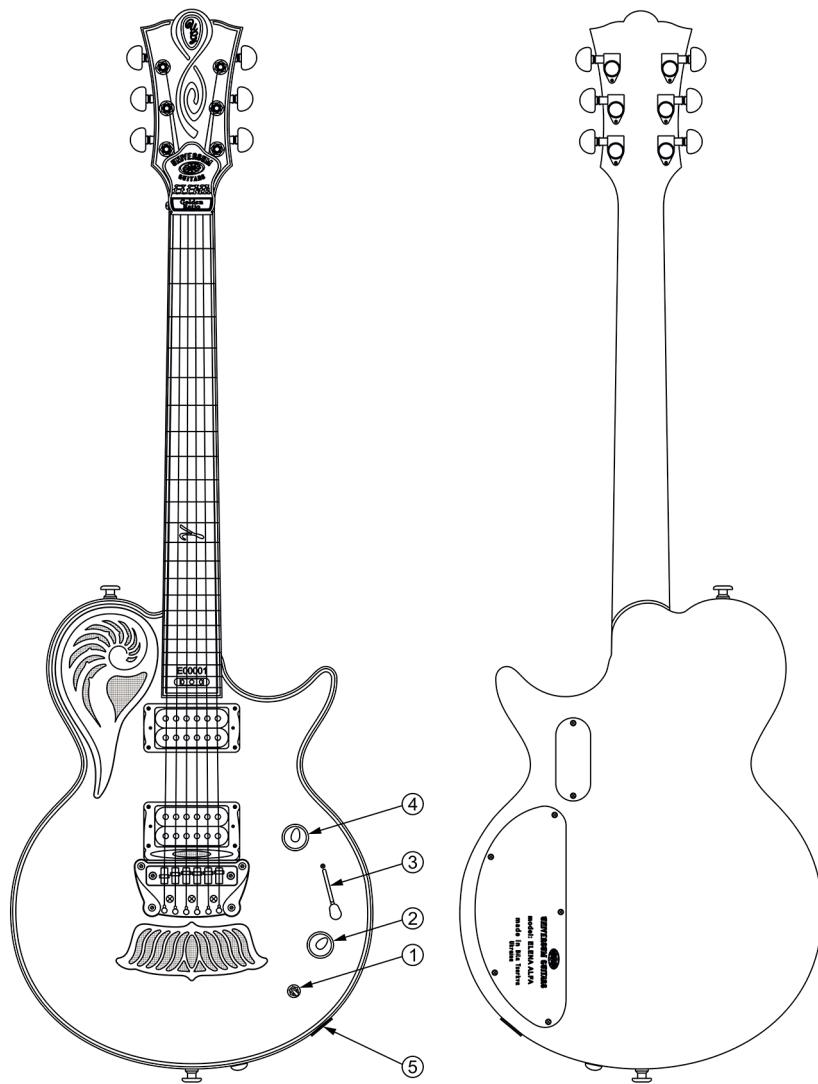

Fig. 19
- Output connector - electromagnetic (Fig.19 Pos.5).
- Power supply element – 1 off (Fig.19 Pos.6).
- 1) Two-position mini-switch handle (Fig.19 Pos.1) of autonomous monitoring system “UNIVERSUM MS” (solid body electric guitar autonomous sound system).
- 2) Tone adjusting potentiometer handle (Fig.19 Pos.2) with two-position switch of “Push-Pool” type. The switch performs one coil tap in each electromagnetic pickup.
- 3) Three-position switch-selector handle (Fig.19 Pos.3): switches the combinations of electromagnetic pickup commutation.
- 4) Handle of electric guitar sound volume adjusting potentiometer (Fig.19 Pos.4).